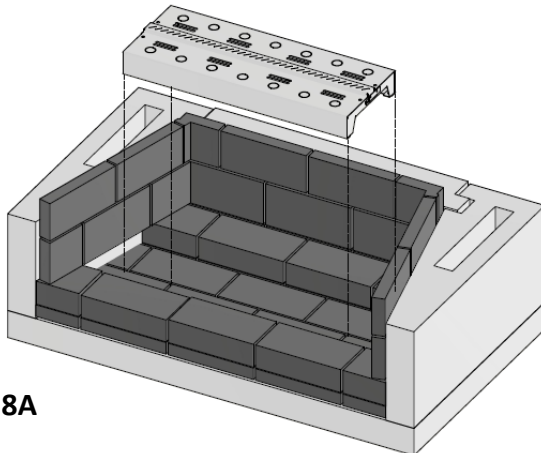

FIGURE 8A
1. Place burner assembly in center of cavity. (**Figure 8A-8C**)